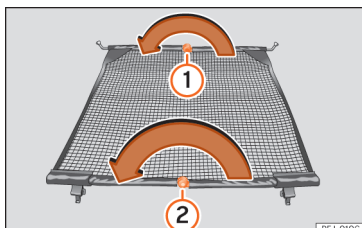

Fig. 152 Folding in the net partition.
- Press on the release button » **Fig. 152 ①** and bend the cross rod in the direction of the arrow with the button pressed.
- Press on the release button » **Fig. 152 ②** and bend the cross rod in the direction of the arrow with the button pressed.